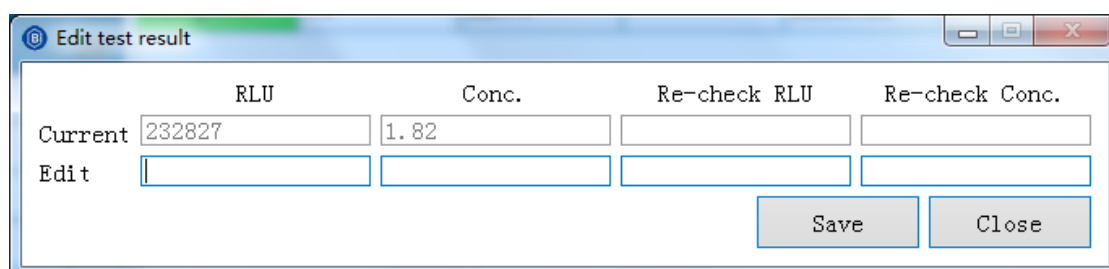

Figure 8.3.15 Edit test result
- Click **Edit test result**, and the edit test result dialog box will pop up, as shown in Figure 8.3.15